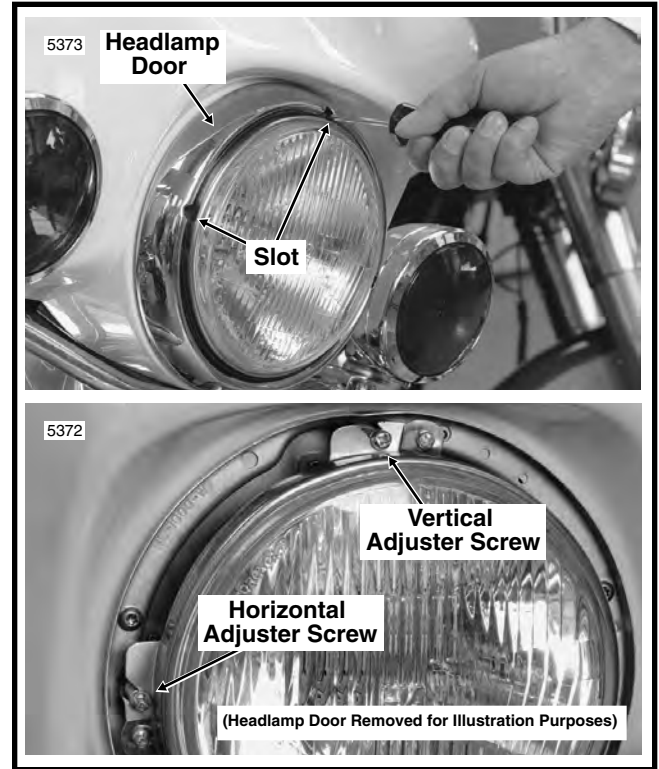

Figure 38. Adjust Headlamp Alignment - FLHTP-I
10. If the headlamp alignment requires adjustment, use slots in headlamp door to insert Phillips screw driver between headlamp housing and rubber gasket. Turn the vertical adjuster screw as necessary to adjust the headlamp vertically. Turn the horizontal adjuster screw to adjust the headlamp horizontally. See Figure 38.